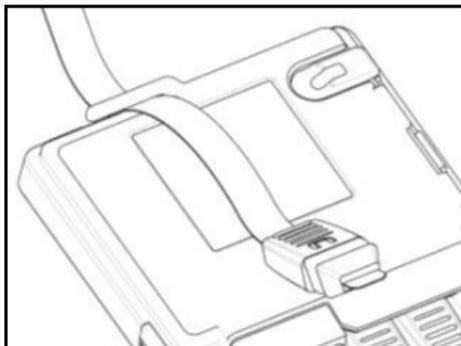
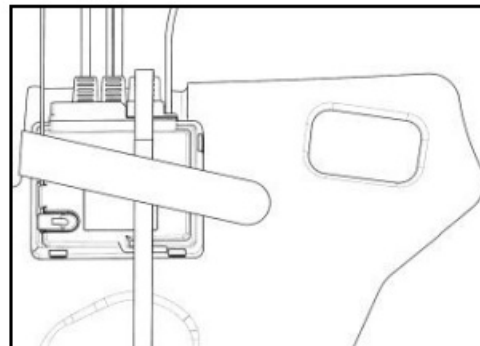

Fig. 39
Fig. 40
- Secure the keypad flex in the special stop (Fig. 39) and position the e-box inside its housing in the cheek pad (Fig. 40).